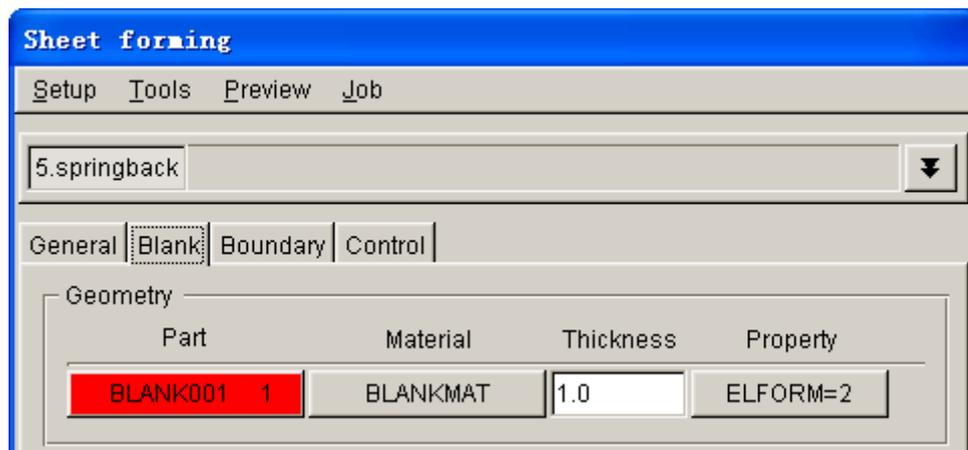

Figure 6.8 Blank definition interface
4. Now, the basic parameters about the blank have been defined, and the tab of the **Blank** has changed from red into blank. See Figure 6.8.
Once blank has been defined, the program automatically selects a kind of default material and relative property as shown Figure 6.8. You can also click **BLANKMAT** button to redefine material.